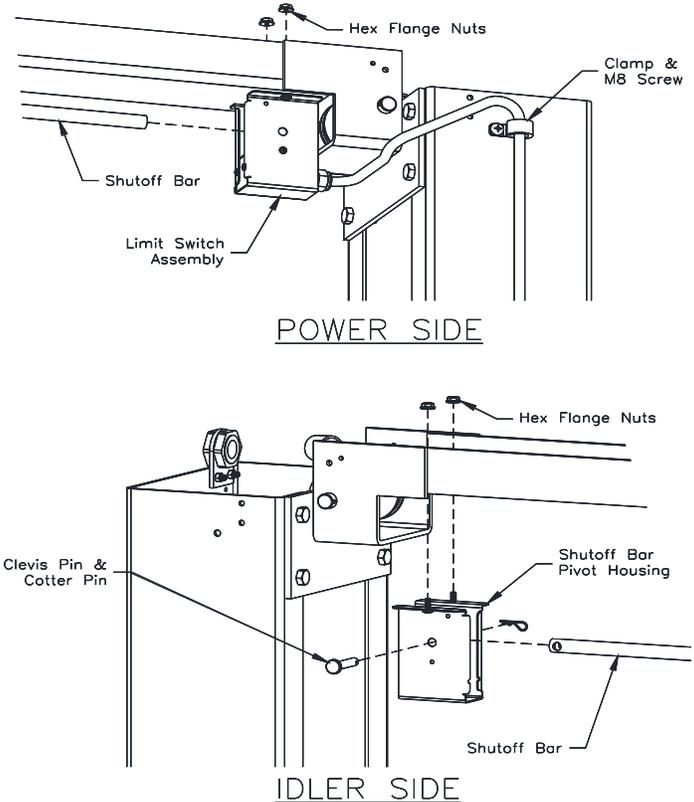

Fig. 4 - Limit Switch
- 13) Install Overhead Limit Switch and Shutoff Bar under the Overhead Beam as shown in **Fig 4**.